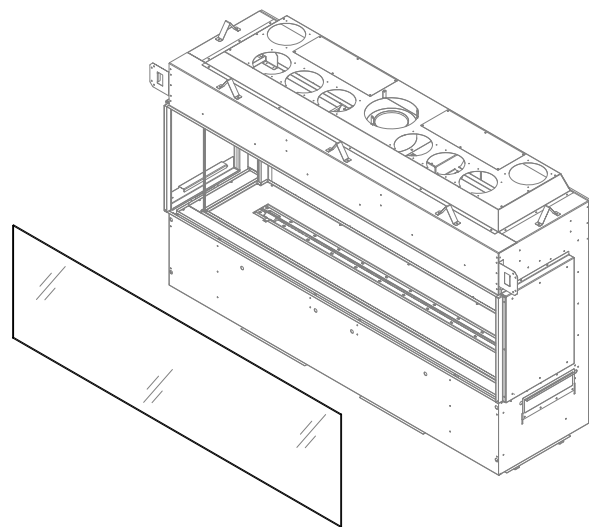

Figure 7.15 - Remove Safety Glass
2. Remove the safety glass, perimeter media tray, firebox glass, and crushed media. You may find it beneficial to remove the lower glass brackets for increased accessibility. Figure 7.15, 7.16, and 7.17.